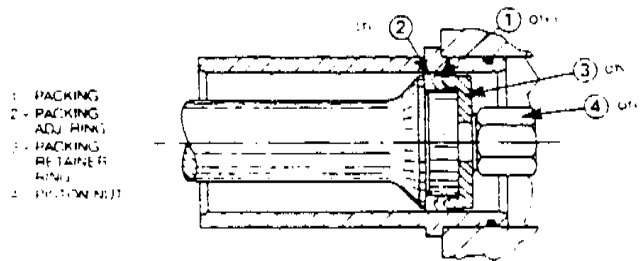

FIGURE 14
1. Refer to cylinder assembly drawing, D17132 for Model 803 or D171794 for Models 804/805; Tool drawing, C17373 and Figure 6; Figure 14.
4. Use the cap plug and piston removal tool (T8) to remove the front cap plugs (19).
6. Apply the adjustable wrench (T4) to the "hex" surface at the rear of one of the pistons (12) and turn the piston until the wrench handle lays against the left sidewall of the well (facing the machine). This will prevent the piston assembly from turning while the next step is completed.
7. Remove the piston nut (16) at the front of the piston by using the drive handle (T10), drive extension (T11) and piston nut socket (T13).
11. Unscrew the adapter and piston removal tools and remove the packing retainer ring (14), packing ring (13) and the packing adjusting ring (44) (see Figure 14).